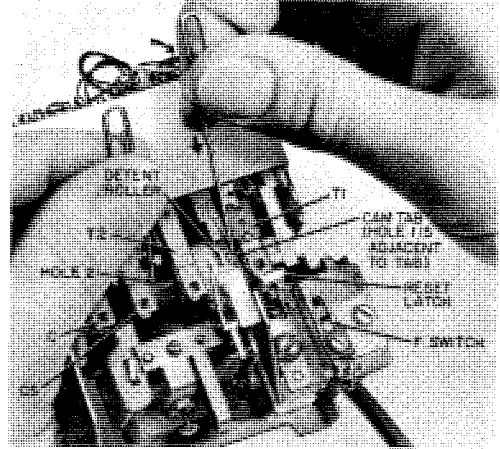

Fig. 15—Increasing Totalizer Rate (Typical)
Increasing Rate (Fig. 15).
- (2) Further rotate shaft approximately 10 steps until a tab on the T1 cam is accessible as shown in Fig. 15 and 16.
- (3) Insert a paper clip into one of the four holes indicated as hole 2 in center of shaft. Hold paper clip firmly so that shaft cannot move.
If hole 1 in T1 cam has been mutilated or clogged preventing use, place paper clip against tab as shown in Fig. 15 and push tab in direction of the straight arrow.